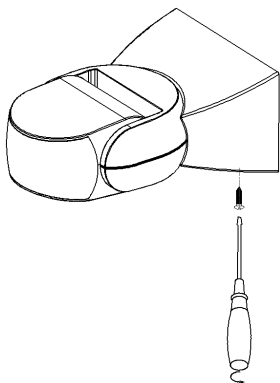

Figure 1
- Loosen the screw on the bottom and unload the bottom (refer to the figure1).